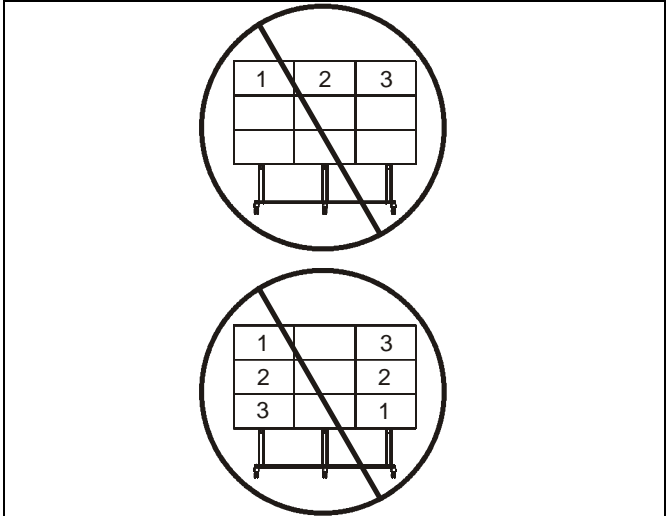
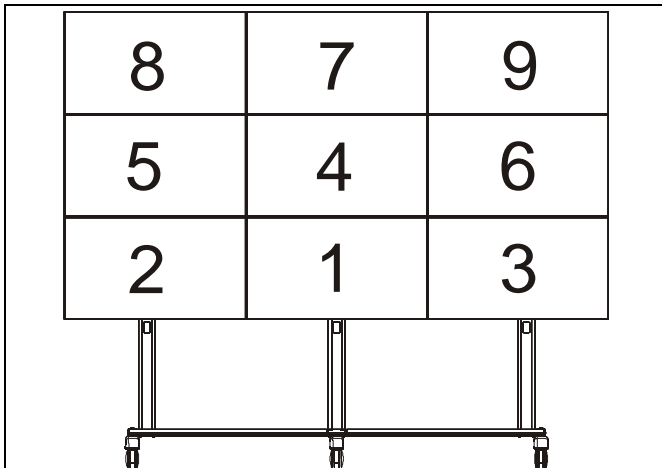

Figure 17
Figure 16
- Starting from the bottom and working up, hang interface brackets (AA and BB) to display rails (K or L and KK). (See Figure 16)
**WARNING:** Improper display installation to the cart can result in serious personal injury or damage to equipment! Install displays from the bottom to the top to decrease the risk of tipping the mount during installation. Do not mount all of the displays on one side prior to installing the displays evenly in each row. On the LVM3X3, mount the center displays in each row prior to installing the outside displays. See Figure 16 for an ideal mounting order for the LVM3X3. See Figure 17 for unacceptable and risky installation mounting orders.